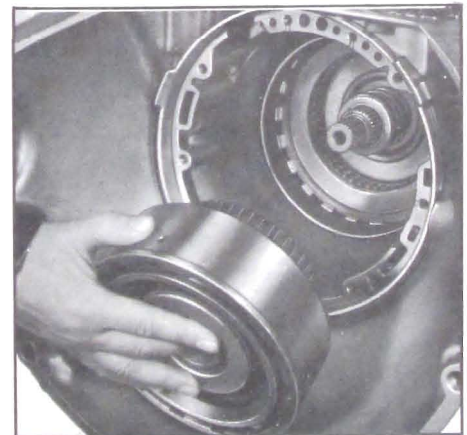

Figure 5-542
7. Remove the direct clutch assembly. See Figure 5-542.